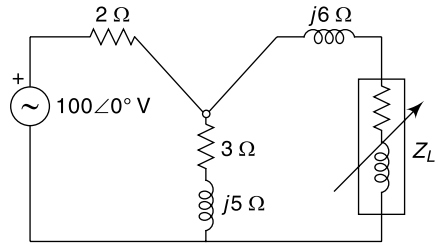

Fig. 14.64
14.78 In the network of Fig. 14.64, find the value of Z_L for maximum power transfer. Also obtain the amount of power transfer.